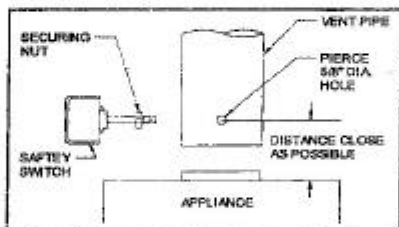

Figure 1
1. Pierce a 5/8 dia. Hole into the vent pipe near the appliance outlet. Remove one of the securing nuts from the pipe of the safety switch. Tighten the other securing nut onto the pipe as far as possible. (See Figure 1)